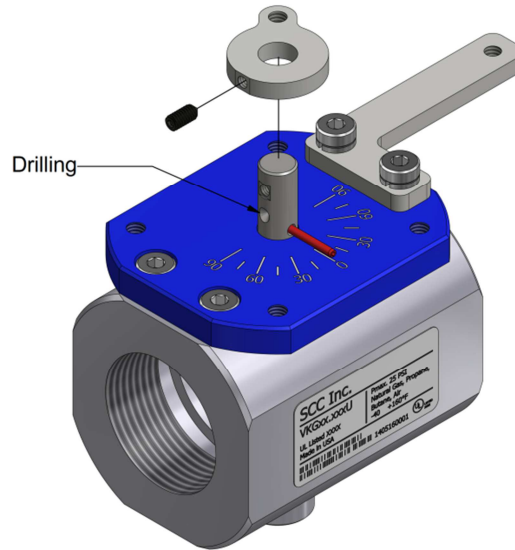

Figure 3: Crank Arm Installation
- Slide the crank arm over the valve shaft in the orientation shown in Figure 3. Rotate it so that the threaded hole in the crank arm lines up with the drilling in the valve shaft. Using a $5/64$ " hex key and the #8-32 set screw, fasten the crank arm to the valve shaft.